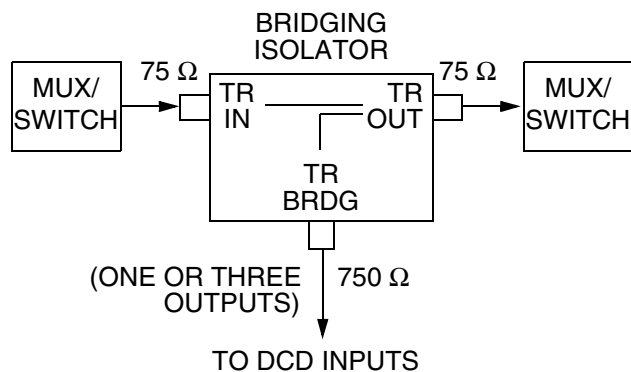

Figure 10. Bridging Isolator
3.08 The bridging isolator (Figure 10) is inserted in a cable to bridge a reference input signal or traffic-carrying E1/CEPT to the DCD Shelf. A connection from the bridging isolator may be used as a reference input for a clock input card, or as an input for a PSM/C card.
3.10 Install the bridging isolator at any point on the cable as shown in Figure 10. The bridging isolator may be connected to the rack, located in a cable tray, or supported by the cable in a vertical cable run. A cable from the bridging output to the DCD-521/C Shelf input must be less than 100 meters.